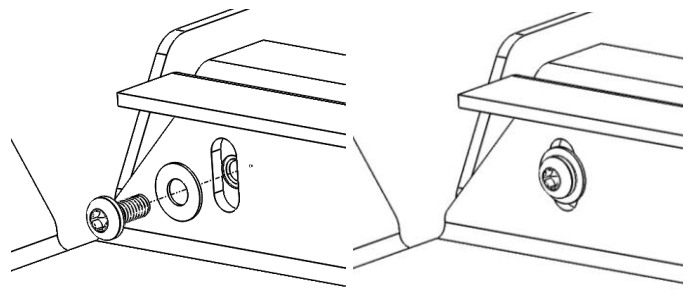

Figure 3: Example of Bolt Through Panels
3. Bolt the panels together using the provided #10-32 x 3/8" bolt and washer. Reference Figures 3, 4, & 5 for more detailed information.